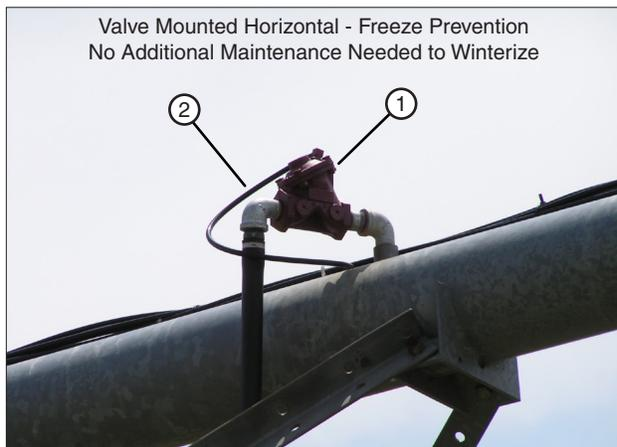

Figure 168-2 1. Aquamatic Valve
One or more Aquamatic sprinkler valves are opened and closed by one solenoid valve in the VRI tower box. A plastic tube connects each Aquamatic sprinkler valve to a solenoid valve. Refer to Figure 168-2.
A typical plumbing configuration for regions where the temperature during the winter months drops below 40°F (4°C) and/or the growing season is six months is shown in Figure 168-2.
- The valve is mounted horizontally which allows water to drain out of the valve and plumbing reducing the possibility of damage due to freezing. Refer to Figure 168-2.